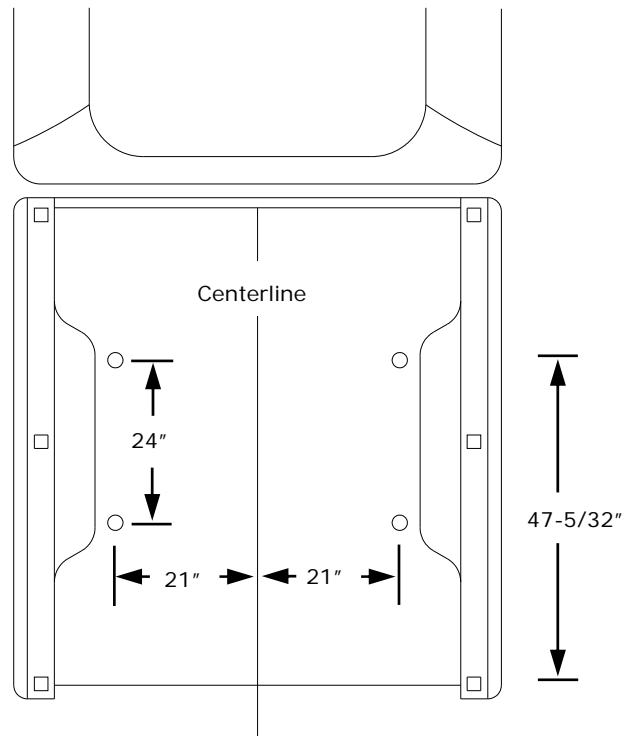

Figure 3
1. See figure 3. Measure and mark from the back of the bed forward 47-5/32". Do this at any point on both sides of the bed.
5. Find the centerline of the bed. Draw a line down the middle of the bed from front to rear. See Figure 3.
6. Measure out from the centerline 21" on each side at the front and the rear of the bed and make a mark. Draw a line on each side (parallel to the centerline), from mark to mark. See figure 3.